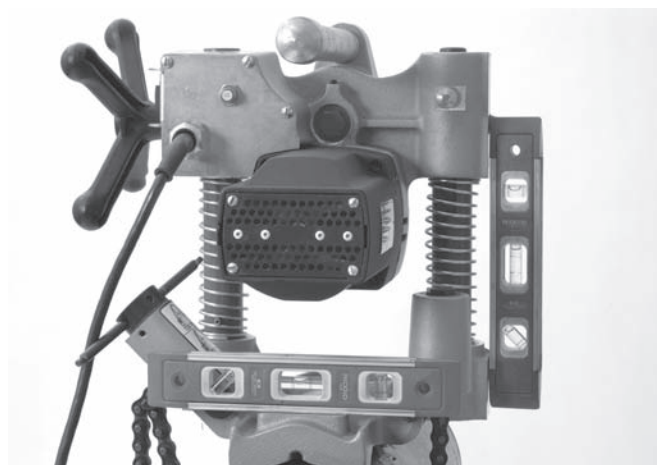

Figure 10 – HC-300 Leveling
6. The base of the HC-300 includes several machined flats for use with levels for hole alignment. (See Figure 10.)